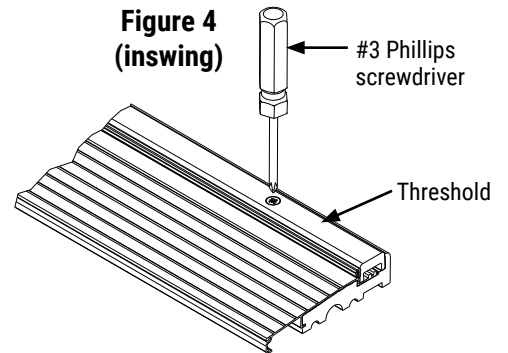

Figure 4 (inswing)
**4** Test for ideal contact between the door sweep and the threshold (inswing only). Put a sheet of paper above a screw on the threshold, close the door and pull. The correct adjustment has a slight tension, if the paper tears, the tension is too high. Adjust the threshold as shown in **Figure 4**. Turn screw clockwise to reduce tension or counter clockwise to increase tension. Repeat the test above each threshold screw.